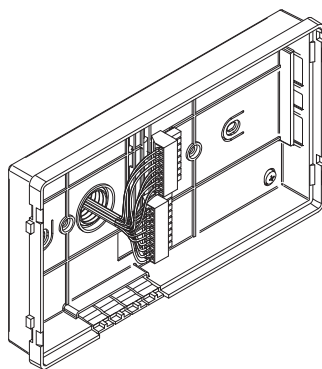
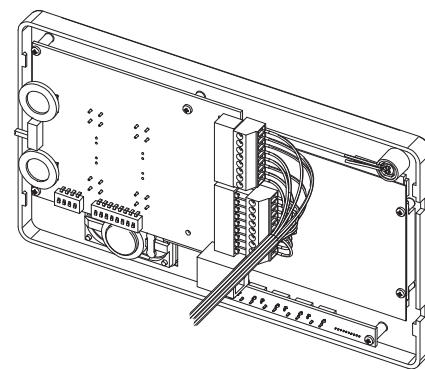

Fig. 5
Fig. 6
- As shown in Fig. 5, connect the wires to the removable terminals following the provided installation diagram. Connect the terminal blocks to the electronics contained in the cover as shown in Fig. 6. Test system before closing. Contrast and hue trimmers can be adjusted only if the videophone is open. To activate the display and see changes use the "Camera Recall" function by pressing  button.